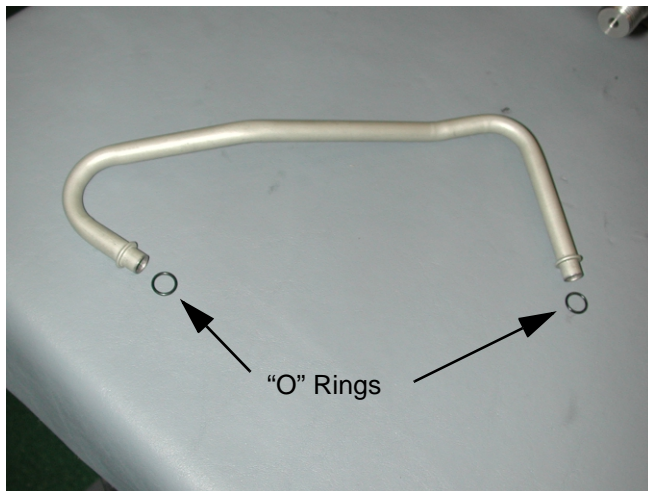

Figure 7
10. Remove and replace the "O" ring on each end of the pickup tube. See Figure 7.